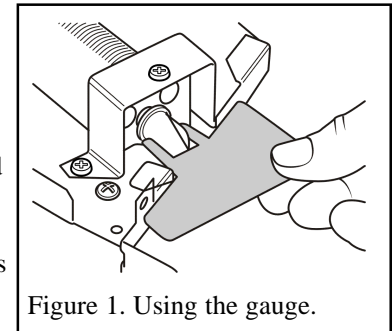

Figure 1. Using the gauge.
3. The kit contains an injector alignment gauge. It is important that this gauge is used to ensure that the injector is correctly aligned with the burner. Failure to check may result in poor combustion. After fitting the LPG burner place the gauge into the cut out at the side of the burner tray. The slot in the gauge should surround the injector as in figure 1. If the gauge will not fit, the injector alignment will require correction. To do this, support the top of the injector and gently rotate it. Continue to rotate and check with the gauge until correct.